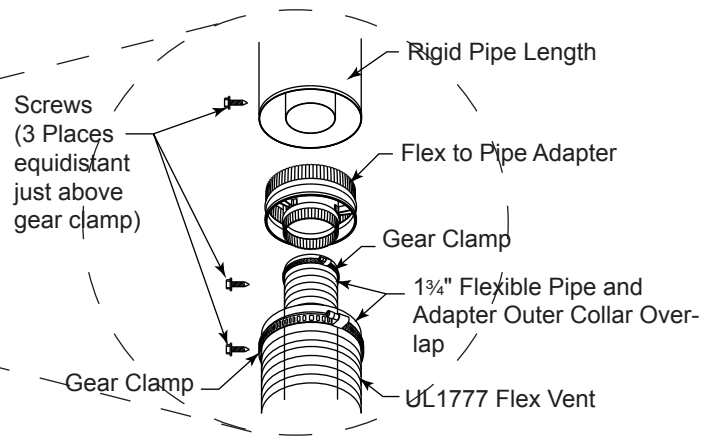

**Figure 37 -
3. Do not allow the flexible vent to bend in radius tighter than 5" (127 mm). *Figure 37*